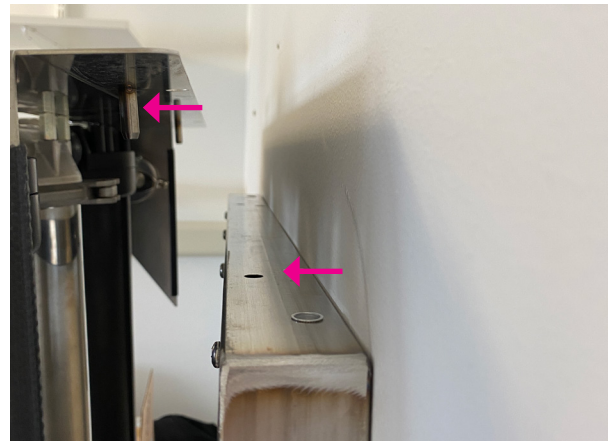

Figure 6
3. Position the filter rack pins in the holes (Fig. 6).